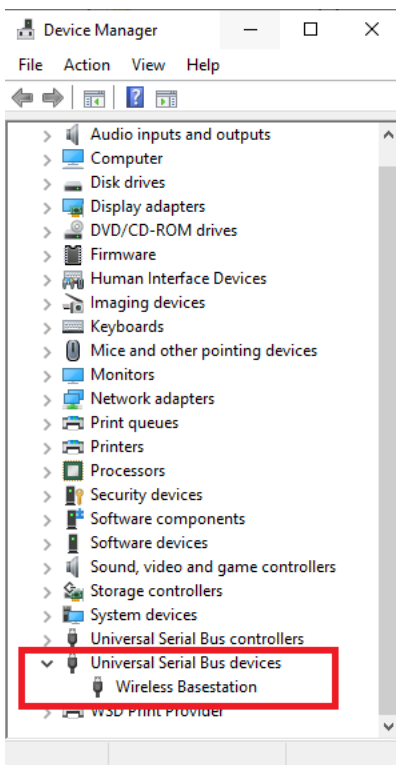

Figure 3.5: *Wireless Base-station displayed in Device Manager after successful USB driver installation.*
7. Once the installation is complete, confirm that *Wireless Base-station* appears under the *Universal Serial Bus devices* tab in Device Manager (Figure 3.5).